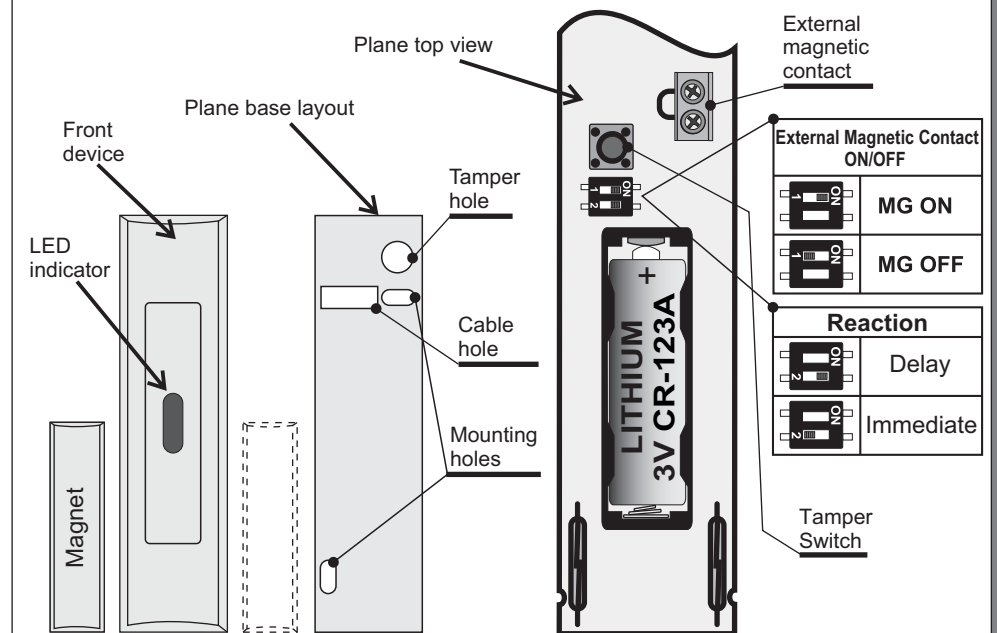
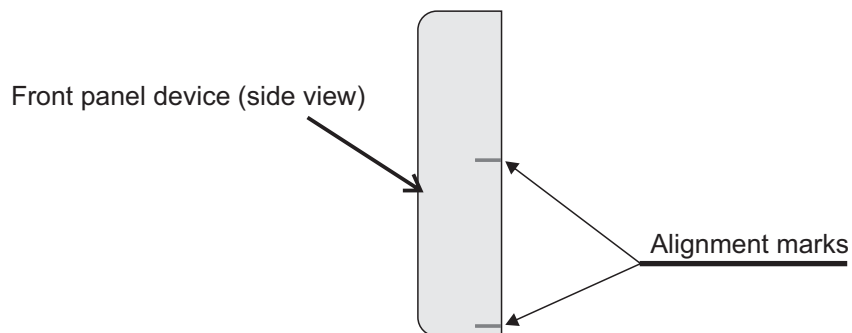

Figure 1
Figure 2
3. Attach the magnet to the moving part. The distance from the device must be a maximum of 5mm when the door / window is closed. The bottom of the magnet must be aligned with the bottom of the device (Figure 1). **The magnet may be located either to the left or to the right of the device, but please pay attention to the alignment marks (Figure 2).** **NOTE!!! Deviations from those alignment marks may lead to reduced magnet cover range.**